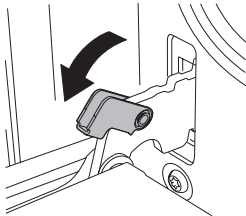

Figure 1
- 1. To remove the door, open the door to the maximum angle. Then pull the buckle at the door hinge backward. (Figure 1)